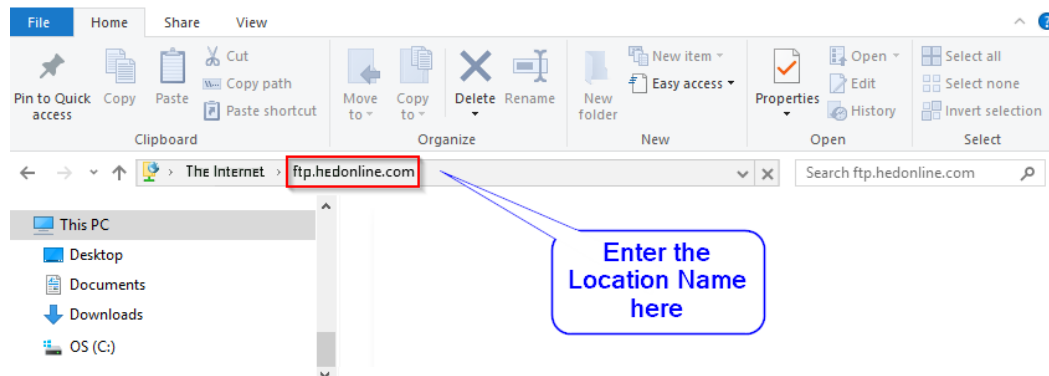

Figure 2: Enter Server Location Into Explorer Menu Bar
2. Enter <ftp.hedonline.com> into the menu bar, as shown in Figure 2.